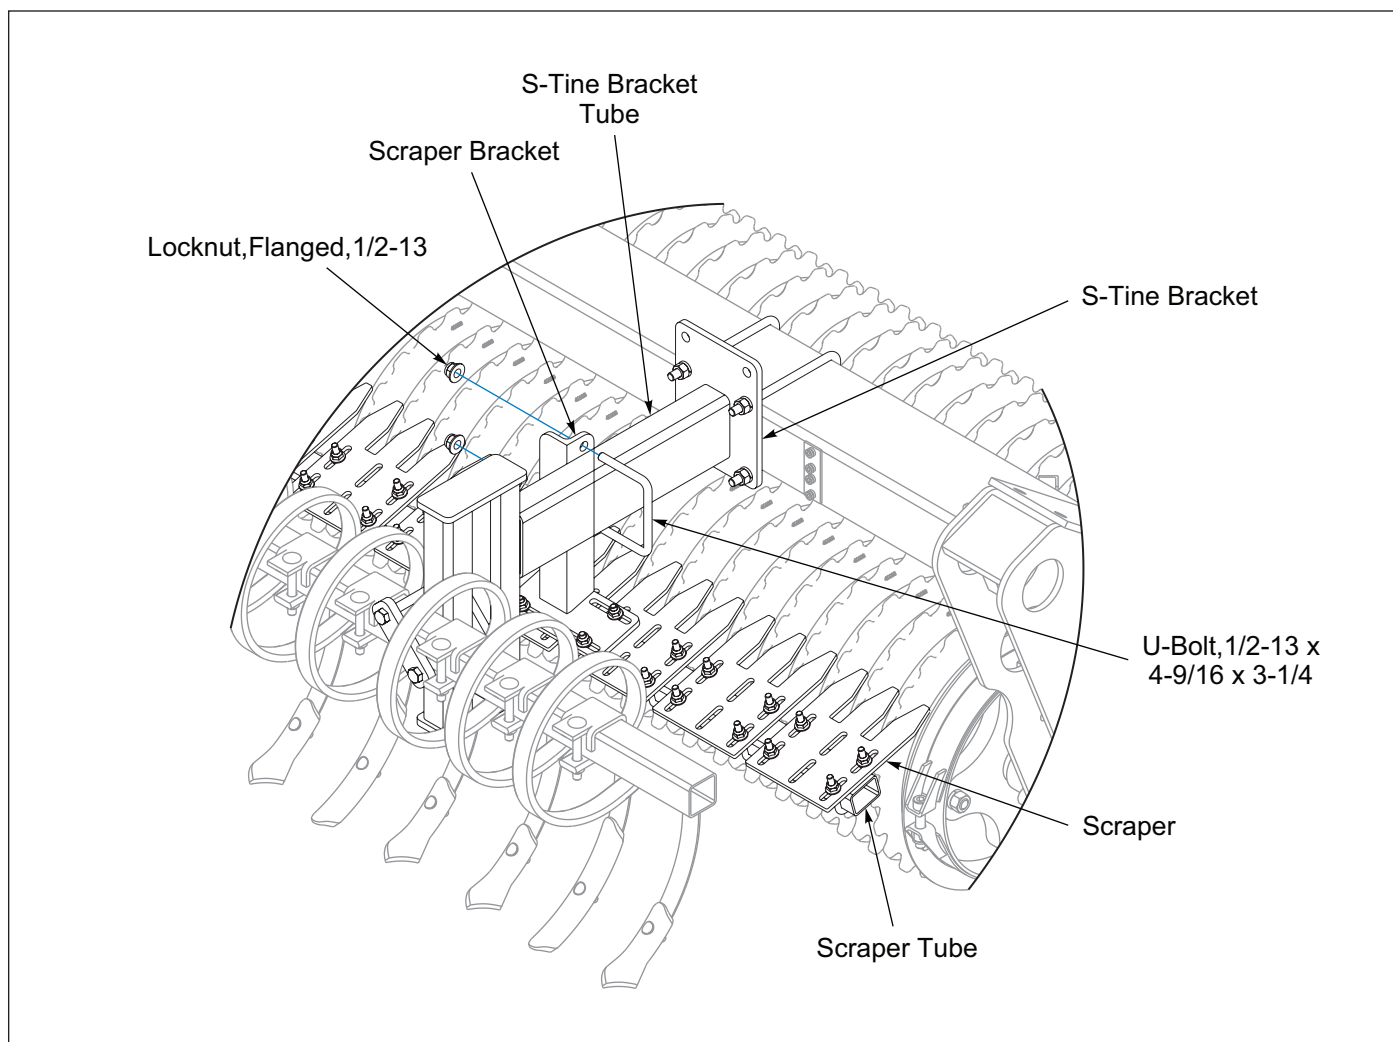

Figure 2-62: Tube Mounted Scrapers with S-Tine Tire Track Remover
S-Tine Tire Track Remover Kit can be used with Scraper Kit. Do Not mount the outer Brackets with the 4-Hole Plate to the front of the Seeder Frame Tube. Attach the outer Scraper Bracket Angle to the Tire Track Remover Kit S-Tine Bracket Tube with a 1/2-13 x 4-9/16 x 3-1/4 U-Bolt and Flange Locknuts. **See Figure 2-62.**
*Scraper Kit can be used with the S-Tine Tire Track Remover. Attach the outer Scraper Bracket Angle to the S-Tine Bracket Tube. Outer Scraper Kit Brackets with the 4-Hole Plate are not used. **See Figure 2-62.** It may be necessary to adjust the Scraper Brackets on the Scraper Assembly for proper positioning of the Scrapers to the Front Roller Wheels.*